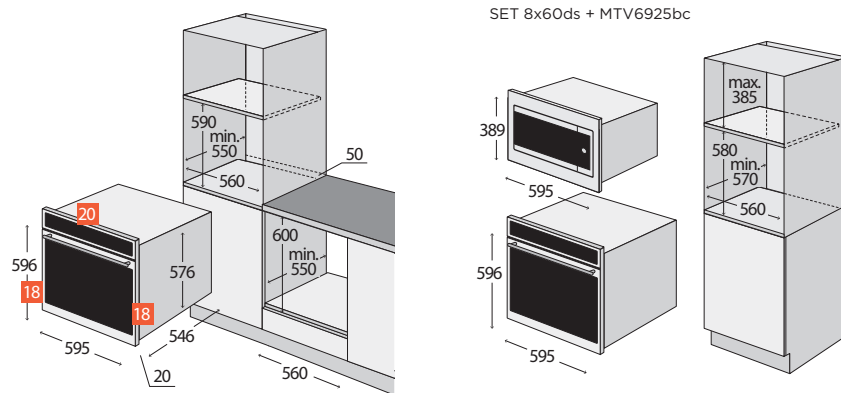

Fig. 5
- The unit should be installed in standardised kitchen furniture designed for built-in appliances or in properly adapted furniture of dimensions according to Fig. 5.
- The appliance may be located either under a kitchen cabinet or in a stand-alone cabinet (Fig. 5).